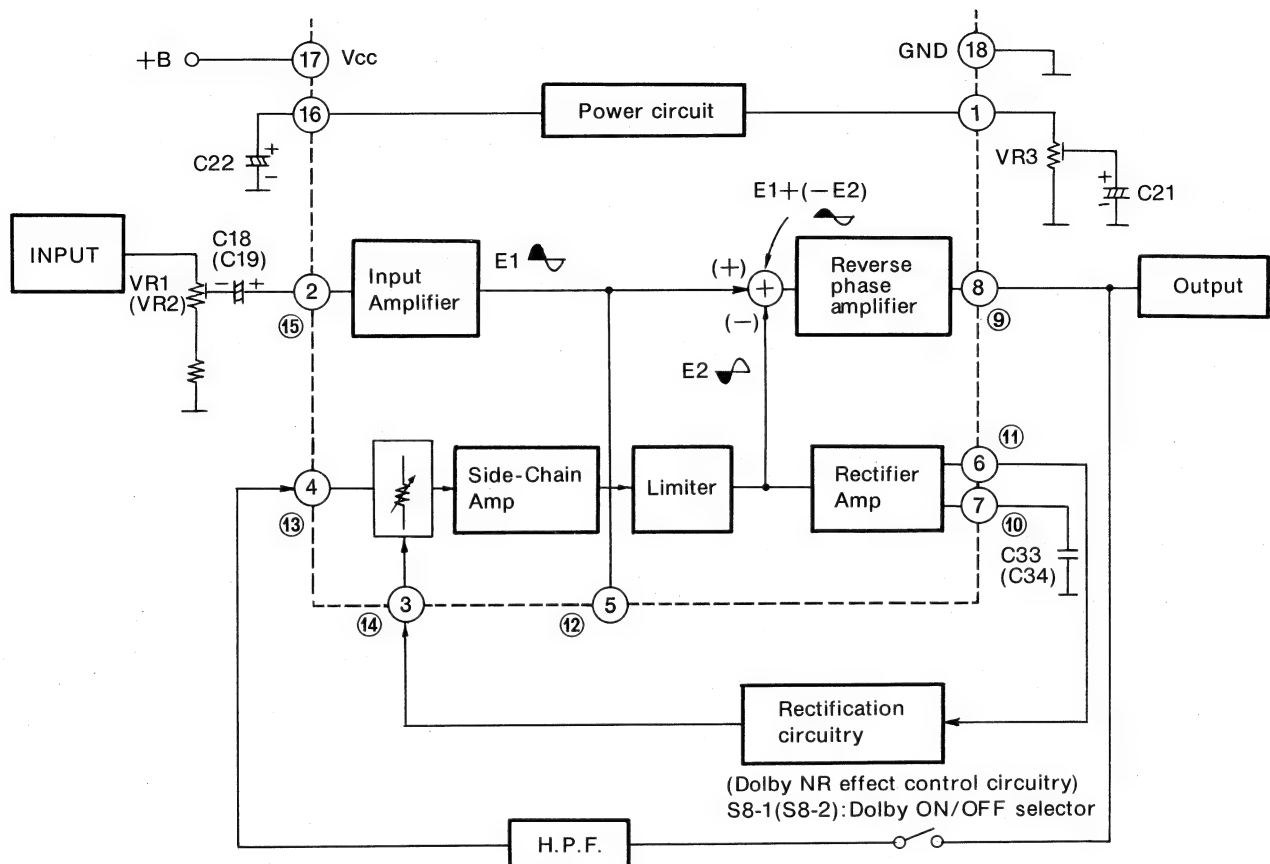

Fig. 35 Block Diagram-IC3 RVIHA11226 (Cassette Deck)
6. When Q9 (Q10) is ON, the electrolytic condenser is connected in parallel with C207 (C208), and this becomes the circuit shown in Fig. 35 B.